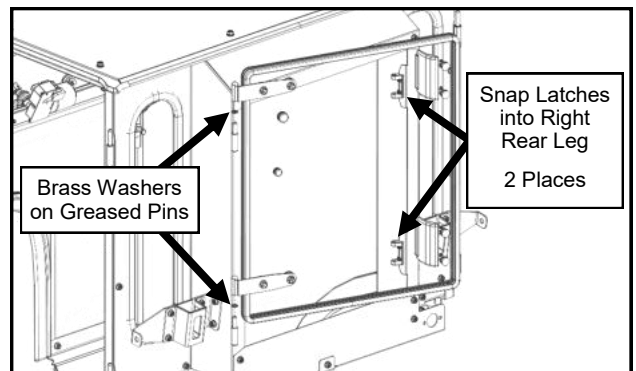

Fig. 16.2 (Hang Rear Window)
16.2 Grease the hinge pins for the rear window, and slide on greased brass washers (one washer per pin). See Figure 16.2.